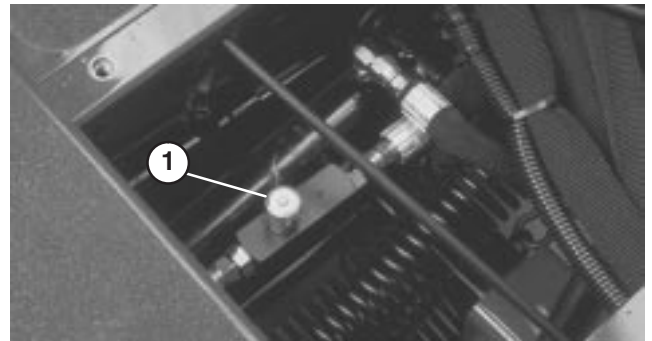

Figure 64
1. Locate valve behind access panel above operator's platform (Fig. 64).